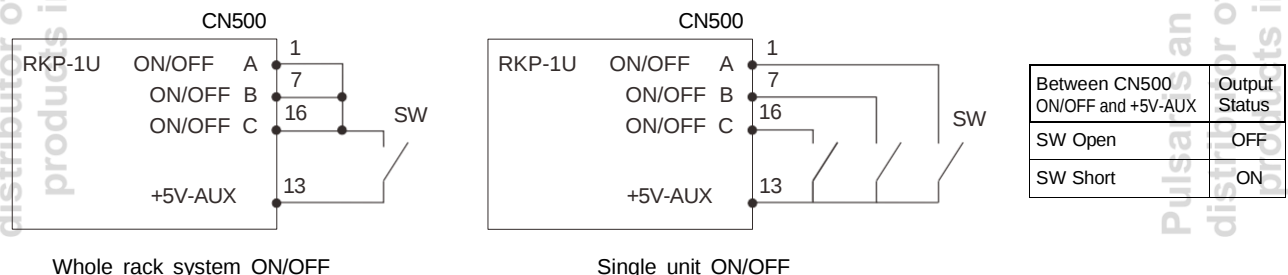

Figure 3-4 Connection for remote ON/OFF control operation
- Built-in remote ON/OFF control circuit. Please refer to Figure 3-4 for single unit or whole rack system control.